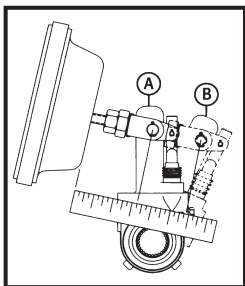

Figure 6 – Measuring Maximum Stroke
7. Using a ruler, measure the distance from the face of the air chamber to the center of the large pin in the clevis (A) (See fig. 6). Make a 90 psi brake application and allow the air chamber to travel its maximum stroke. Measure to the center of the large pin (B). The difference between (A) and (B) is the push rod stroke. Check the following charts for proper maximum stroke after adjustment of the brakes.